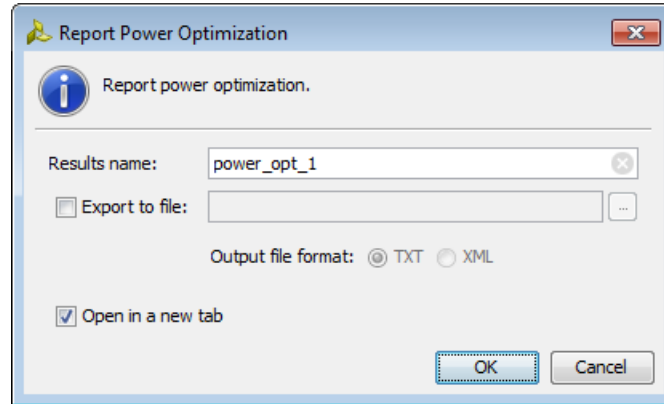

Figure 4-11: Report Power Optimization Dialog Box
3. In the Report Power Optimization dialog box (Figure 4-11), specify the following options.